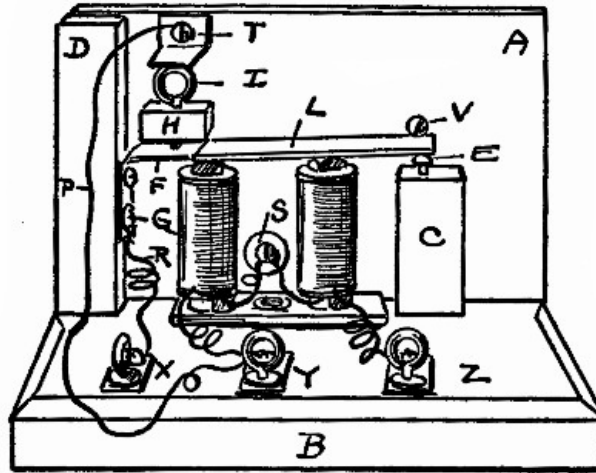

Fig. 102.
**221. Combination Buzzer and Telegraph Sounder.** Fig. 102. This apparatus is good for experimental purposes, where you do not wish to go to the trouble to make two separate pieces. For the dimensions and explanations see App. 121 and 125. There is but a slight change in App. 125 to make this.